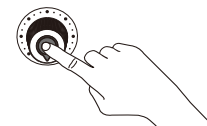

Figure 8
(2) HUE setting: Rotate the " Function knob " to select HUE, the range of color adjusting range is 000-360, (As shown in figure 7) Press the " Function knob" to adjust the color in sequence, each time to press, the values will increase 60. When it gets to 360, it starts from 60 again. (HUE: 000: Red, HUE:120 :Green, HUE:240:Blue, HUE:360:Red). (As shown in figure 8)